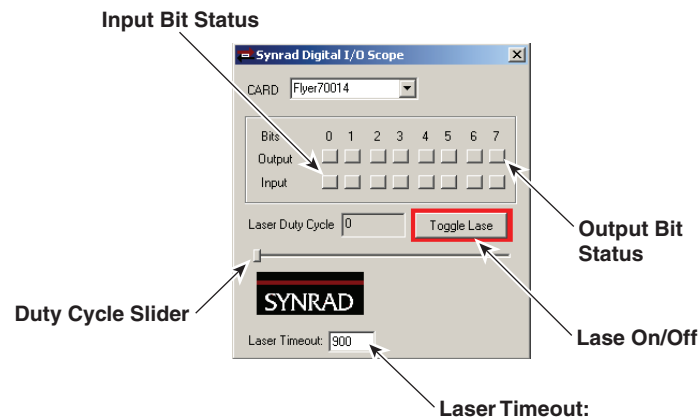

Figure 8-1 Digital Scope display
- 4 Digital Scope opens as shown in Figure 8-1.